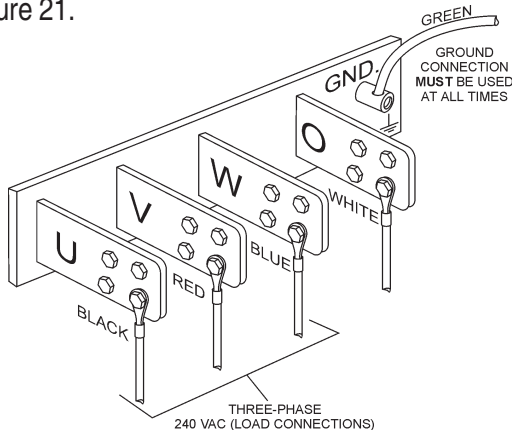

Figure 21. UVWO Terminal Lugs 3Ø-240V Connections
2. Connect the load wires to the UVWO terminals as shown in Figure 21.